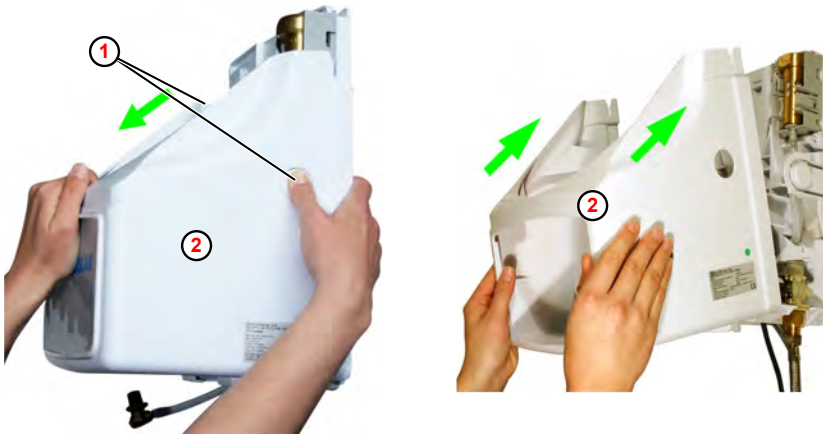

Fig. 15: Removing/installing the hood (example with EcoPlus S)
1. ➤ Press both buttons (Fig. 15 , ①) on the housing (right and left).
2. ➤ Remove the housing ② forwards.